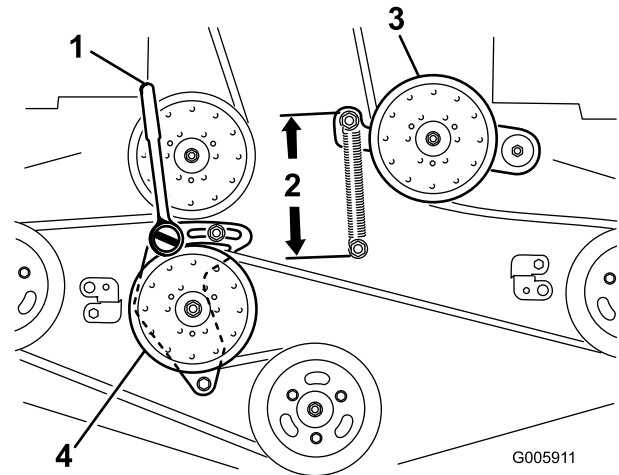

Figure 61
4. Loosen the fixed idler arm and adjust it to relieve belt tension (Figure 61).
9. To increase the belt tension, rotate the ratchet or breaker bar counterclockwise to move the fixed idler arm until there is 6–1/2 inches (16.5 cm) between the spring hooks (Figure 61).
7. Insert a ratchet with a short extension or a breaker bar into the square hole in the fixed idler arm (Figure 61).